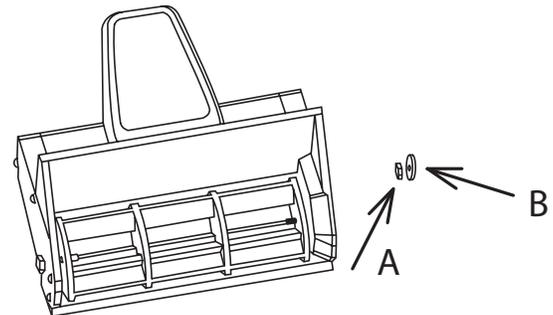

Figure 8
1. Remove lock nut (counterclockwise) and flat washer (Figure 8).